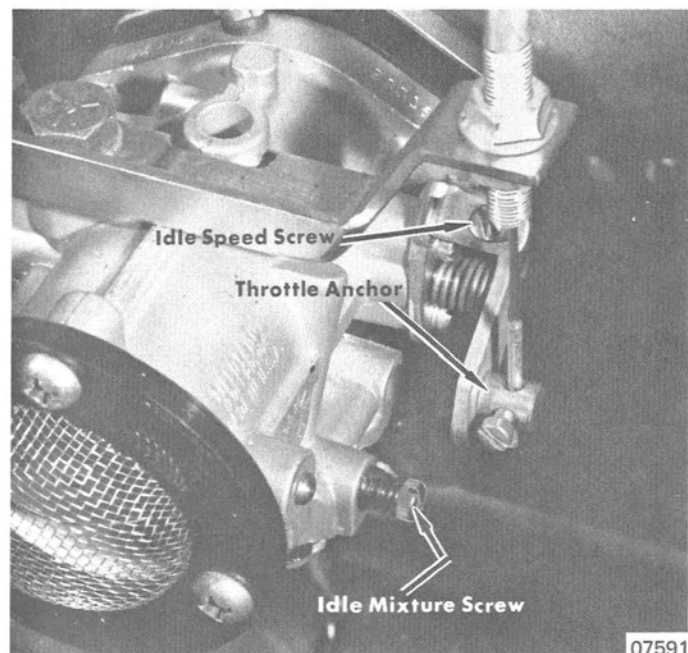

Figure 1. 440 MAX Carburetor
1. Initial adjustment for a new unit (or a carburetor that has not been run on engine) is one full turn open on idle mixture screw. (Figure 1 or 2)
2. Idle speed screw (Figure 1 or 2) should be adjusted to open throttle shutter a small amount.
3. With engine running at idle speed, turn idle mixture screw counterclockwise until engine starts to "load-up" or fire unevenly, due to over-rich mixture. (Figure 1 or 2)